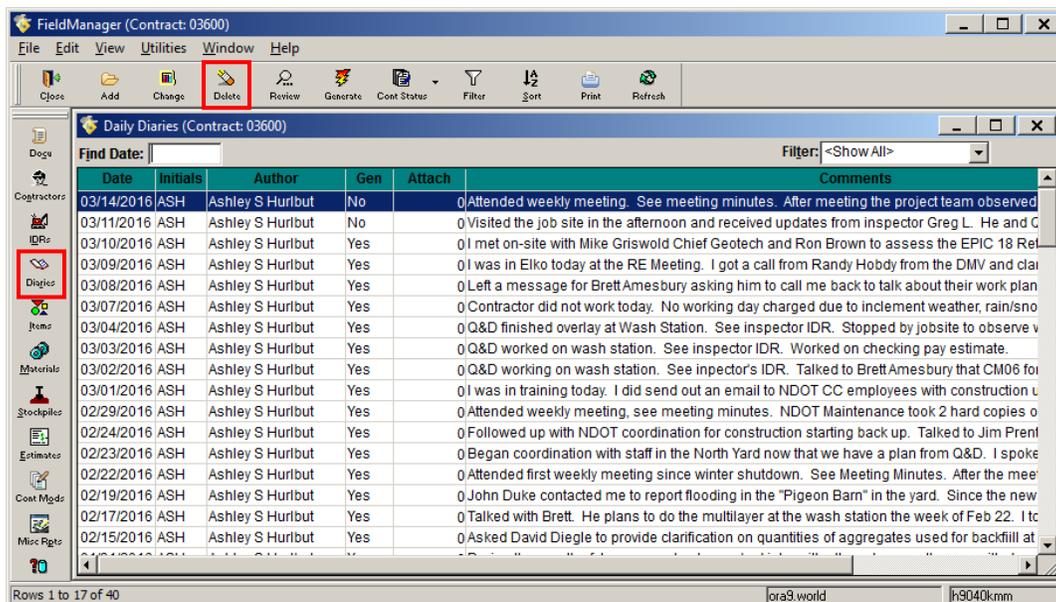

Figure 8-13. Daily Diaries List Window
- Select the contract in the Contracts list window, click **Diaries** on the Application Toolbar. The Daily Diaries list window opens (Figure 8-13).
- Select the Diary from the Daily Diaries list window and click **Delete** on the Application Toolbar (Figure 8-13).